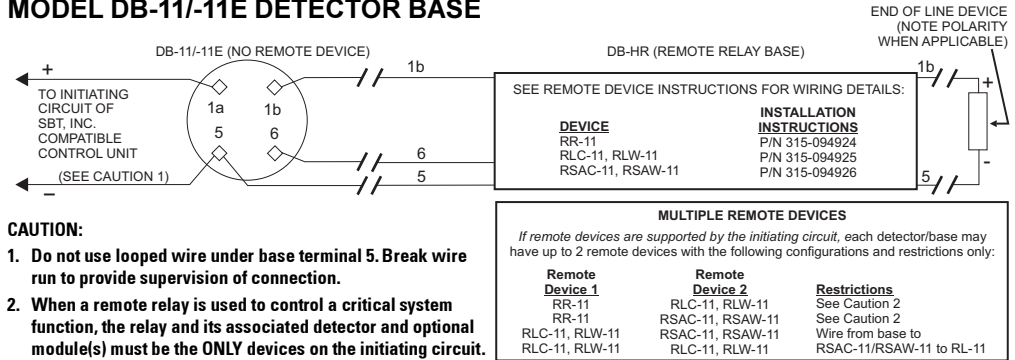

Figure 1 Wiring Diagram for DB-11/-11E using PE-11, PE-11T, and DT-11 Detectors
Siemens Building Technologies, Inc.'s detectors should be interconnected as shown in Figures 1, 2 or 3 and wired to the control panel following the wiring connection drawing installed on the inside face of each control panel cover. NOTE: H Series devices are wired to the DLC (refer to DLC Installation Instructions, P/N 315-033090.) **Note any limitations on the number of detectors and restrictions on the use of remote devices permitted for each circuit.**
3. Route wires through the hole in the center of the base and mount base to outlet box. Make connections directly to the base terminals. Refer to Figures 1, 2 and 3 for details.